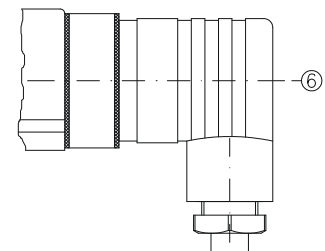

Fig. 5.2.6
- ✚ Plug the cable socket ② on the connector ① and tighten the central screw ⑥ (→ Fig. 5.2.6).